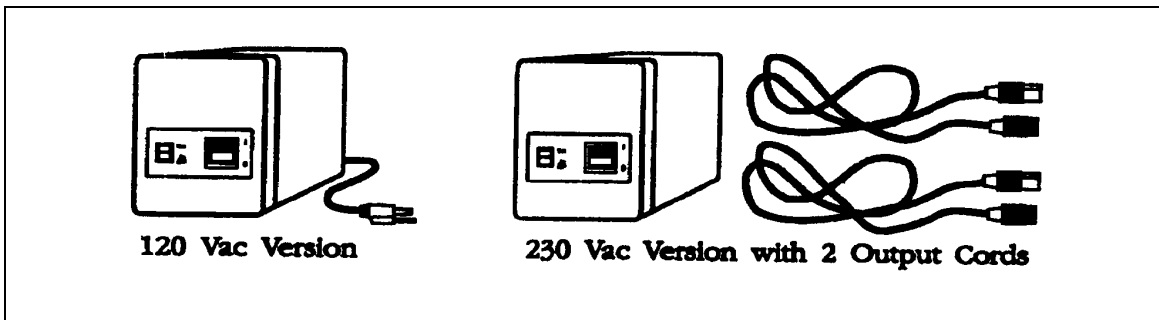

Figure 3-1. Uninterruptible Power Source (UPS).
g. The Uninterruptible Power Source (UPS) is illustrated in figure 3-1.